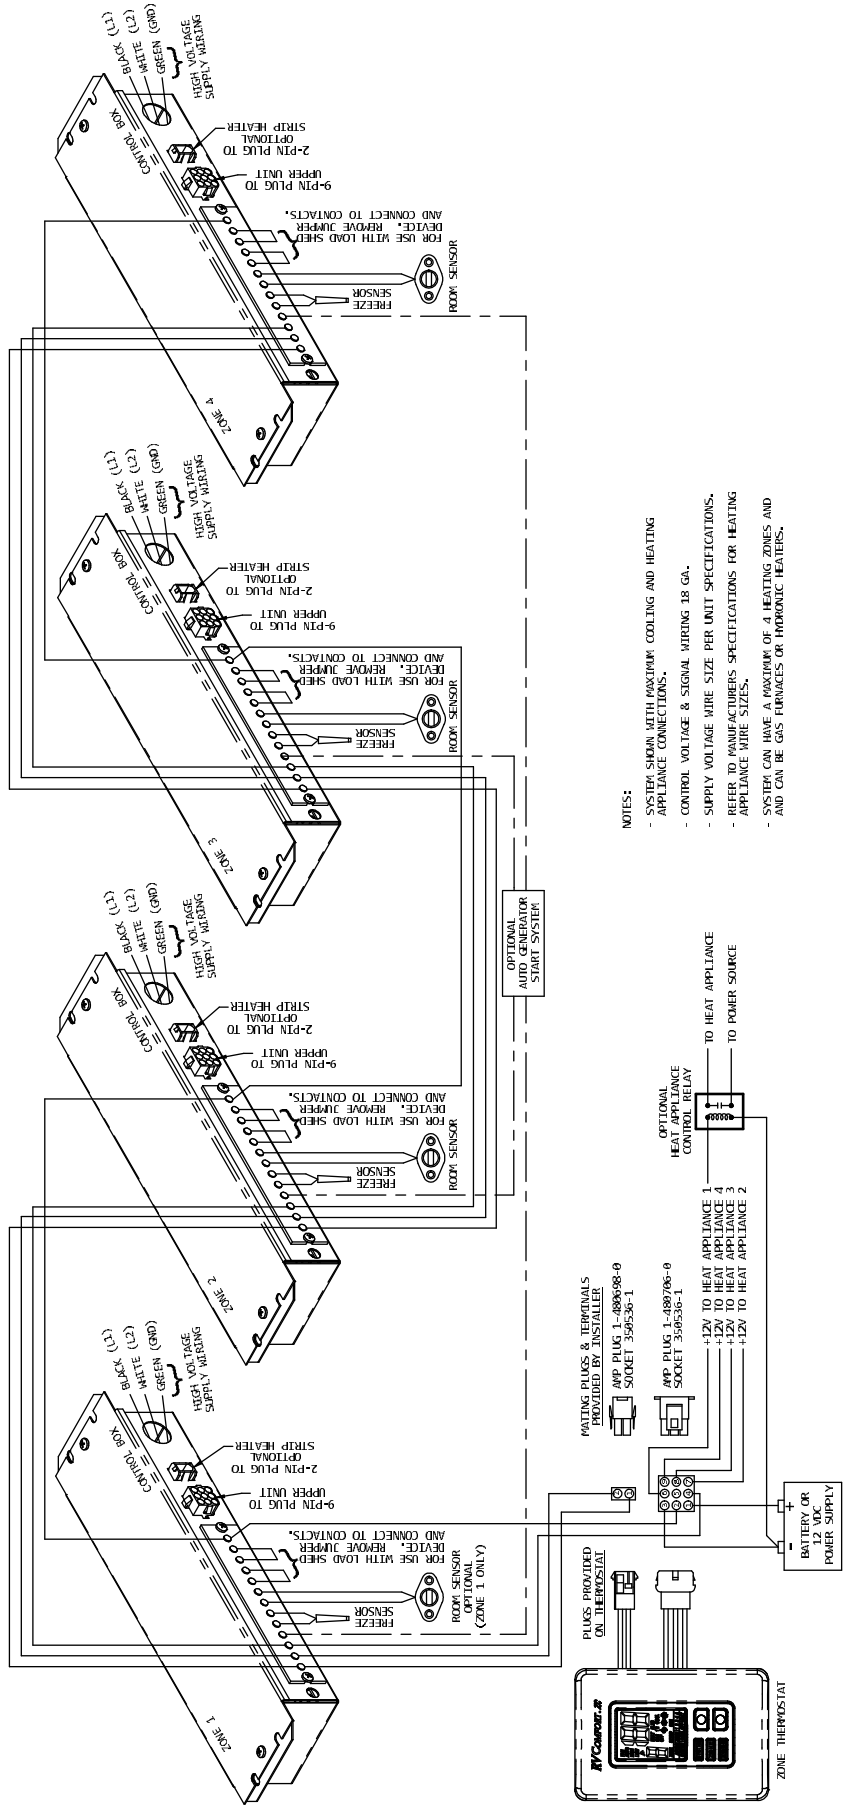

FIGURE 6
- (1) Blue wire for -12 VDC circuit (B-)
B. See Figure 6 for wiring requirements for multiple zones.
Zone 2 is wired in by jumpering from Sig 1, Sig 2, B- and R+ on Zone 1 box to Zone 2 box. Zone 3 is wired in by jumpering from Sig 1, Sig 2, B- and R+ on Zone 2 box to Zone 3 box. Zone 4 is wired in by jumpering from Sig 1, Sig 2, B- and R+ on Zone 3 box to Zone 4 box (See Figure 6).